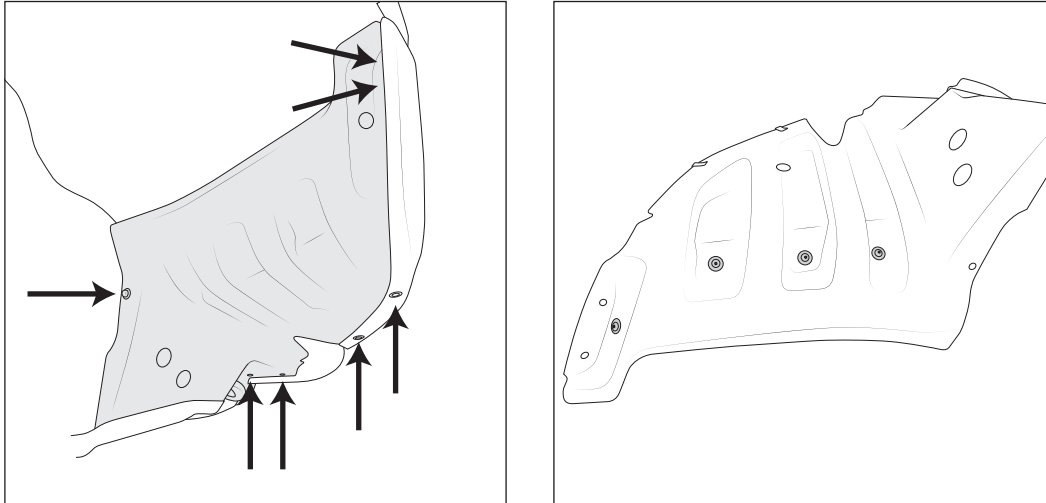

Figure 10
- A. Remove closeout panels from underside of bumper. Remove four screws to remove inner panel and discard (fig. 10).